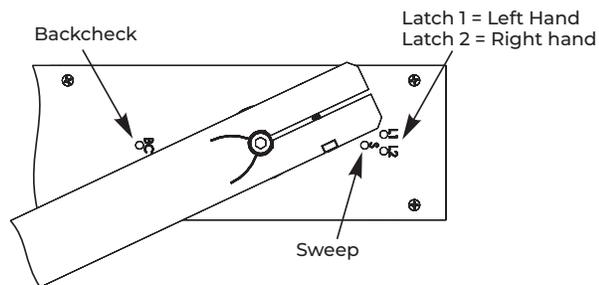

Figure 10
1. With provided 1/8" hex wrench, completely tighten latch and sweep valves by turning clockwise. This will allow for an easier closer-to-door connection. (Figure 10)